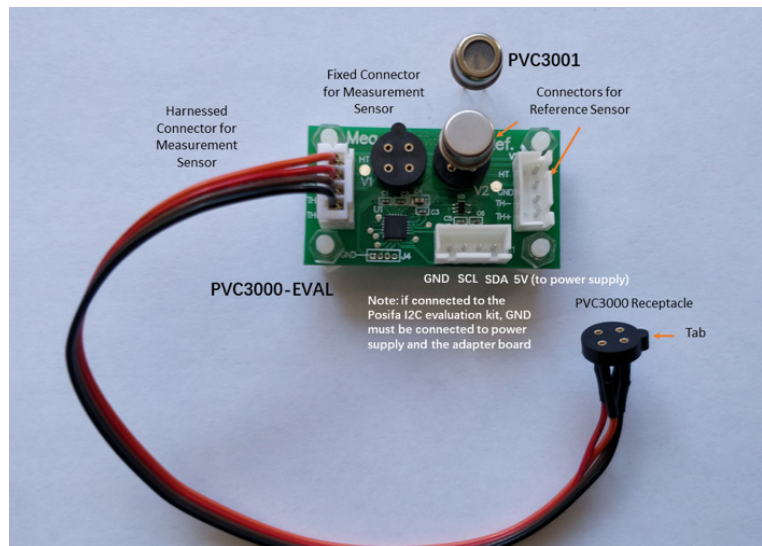

Figure 1
- The PVC3001 measurement sensor can be mounted on two separate locations: On the board itself on the “Fixed Connector,” or on the end of the “Harnessed Connector” (see Figure 1)
- Connect the PVC3001-S to the receptacle. In Figure 1, PVC3001-S is already plugged into the fixed connector for the reference sensor